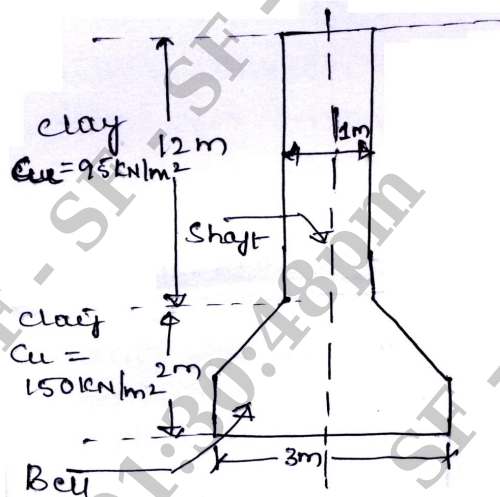

Fig.Q7(b)
b. A drilled pier as shown in Fig.Q7(b).